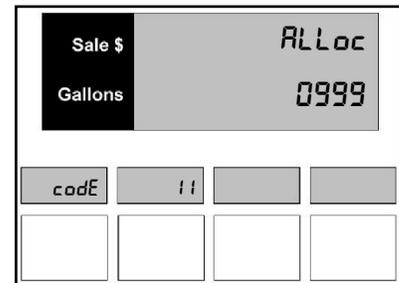

Figure 11.1 – Volume Allocation Limit
1. Press the number **1** and **1**, then the **Mode** button on the keypad. The PPV display shows the dispenser is in Menu Code 11. If the dispenser has not been programmed since it came from the factory, the number 0999 appears in the main display. This is the default setting as shown in *Figure 11.1*.